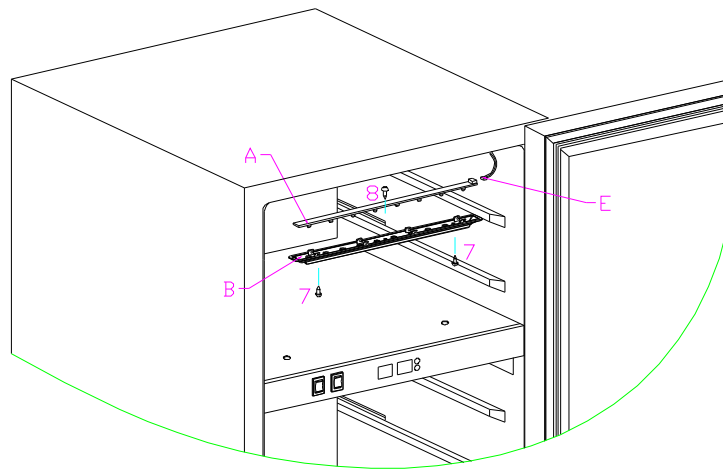

Fig. 13
1. How to replace the upper LED light ( Fig.13)
- 2 >, Remove 2 fixing screws(7) of the light cover(B), take apart the cover.( Fig.13)